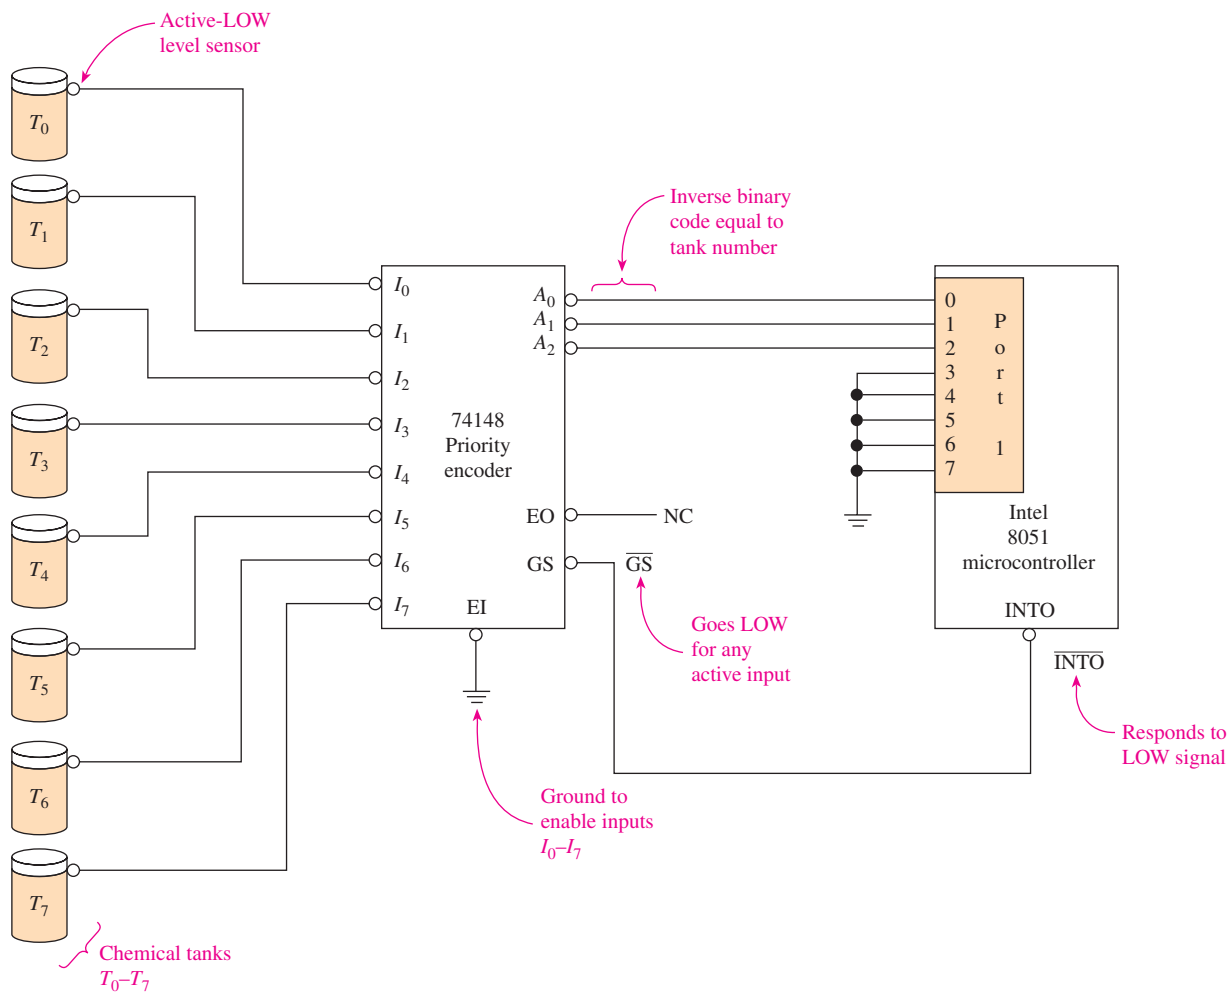

Figure 59 Using a 74148 to encode an active alarm to be monitored by a microcontroller.
This design application uses a 74148 encoder to monitor the fluid level of eight chemical tanks. If any level exceeds a predetermined height, a sensor outputs a LOW level to the input of the encoder. The encoder encodes the active input into a 3-bit binary code to be read by a **microcontroller**. This way, the microcontroller needs to use only three input lines to monitor eight separate points. Figure 59 shows the circuit connections.
22. In Figure 59, how is the microcontroller notified of a high fluid level at one of the chemical tanks?
23. The circuit of Figure 59 would work properly but have inverted outputs at A_0 – A_2 if the level sensor outputs were active-HIGH instead of active-LOW. True or false?